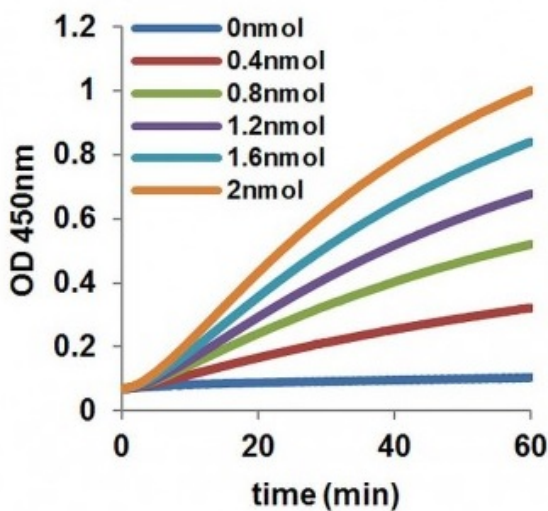

Figure 1. GSH Standard Curve, results from multiple experiments.
- 10.1 Calculate the rate of each Standard Reading: Rate= $[\Delta OD (OD_2 - OD_1)] / [(\Delta t (t_2 - t_1))]$ (Fig 1).